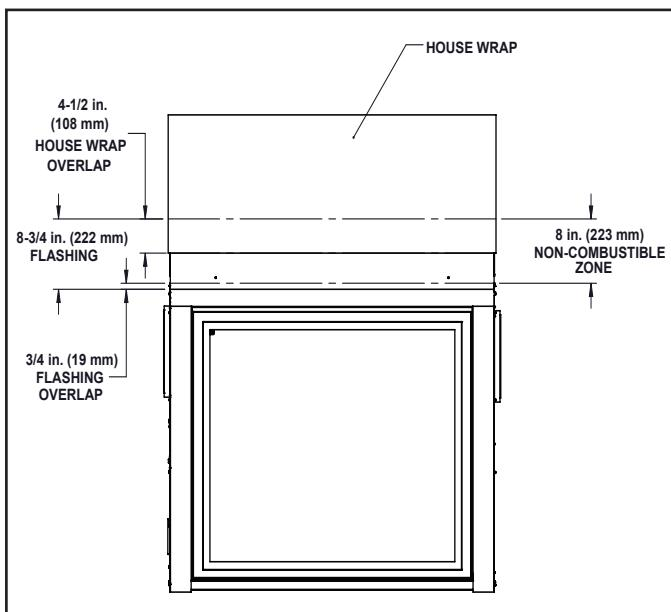

Figure 10.4
5. For placement of house wrap or building paper and tape see Figure 10.4. Special care should be taken when choosing building materials or weatherproofing (i.e. buiding wraps, sealant tapes, liquid sealants, rubberized flashings, etc.). All sealant materials or building wraps installed must be approved to a minimum temperature of 225 °F (124 °C) continuous exposure. Consult the material's manufacturer to ensure product compliance.